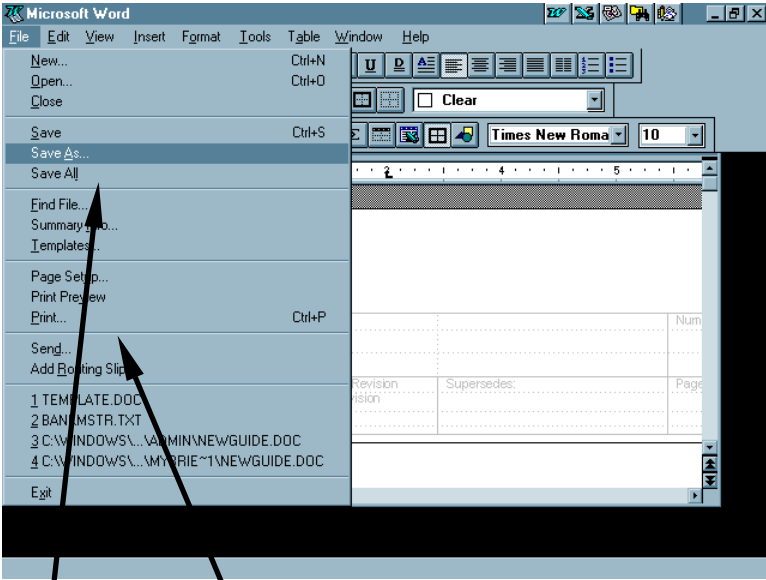

Figure 6
16. Next view the **Template** file in the **File|Print Preview** mode to view the header and footer. Note this menu selection is visible in the pull down menu in Figure 6 above.
9. Next perform a **File|Print Preview** and look at how the information you just copied into [**Your Template**] looks on the page. (See Figure 6 on Page 9.)